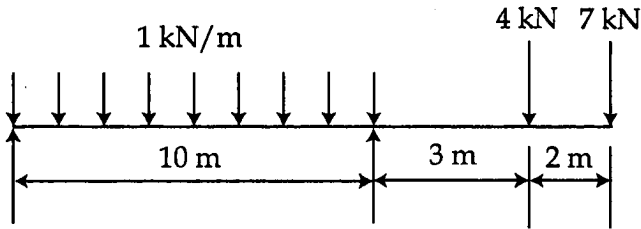

Fig. 4
4. An overhanging beam is shown in Fig. 4. The length of the beam between supports is loaded by a u.d.l of 1 kN/m and overhang carries two concentrated loads of 4 kN and 7 kN. Draw B.M.D and S.F.D. 14